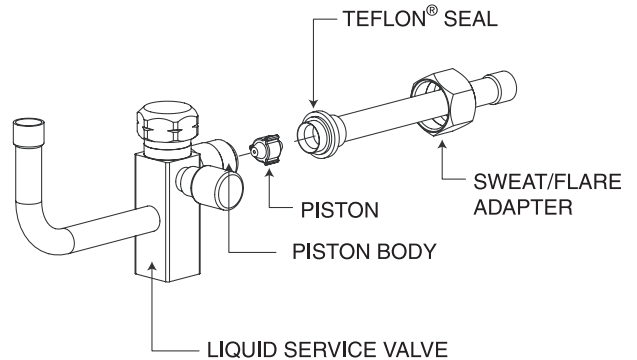

Fig. 5 - Liquid Service Valve with Sweat Adapter Tube
4. Remove Teflon® washer from bag and install on open end of liquid service valve. (See Fig. 5.)